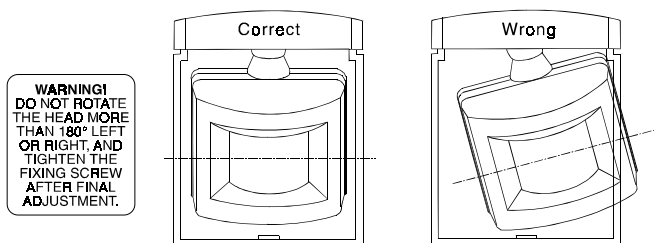

Figure 7. Positioning the PIR
- G. Observe the detector from the front and ensure that it is level, so that the entire coverage pattern is used, across its full width. See Figure 7.